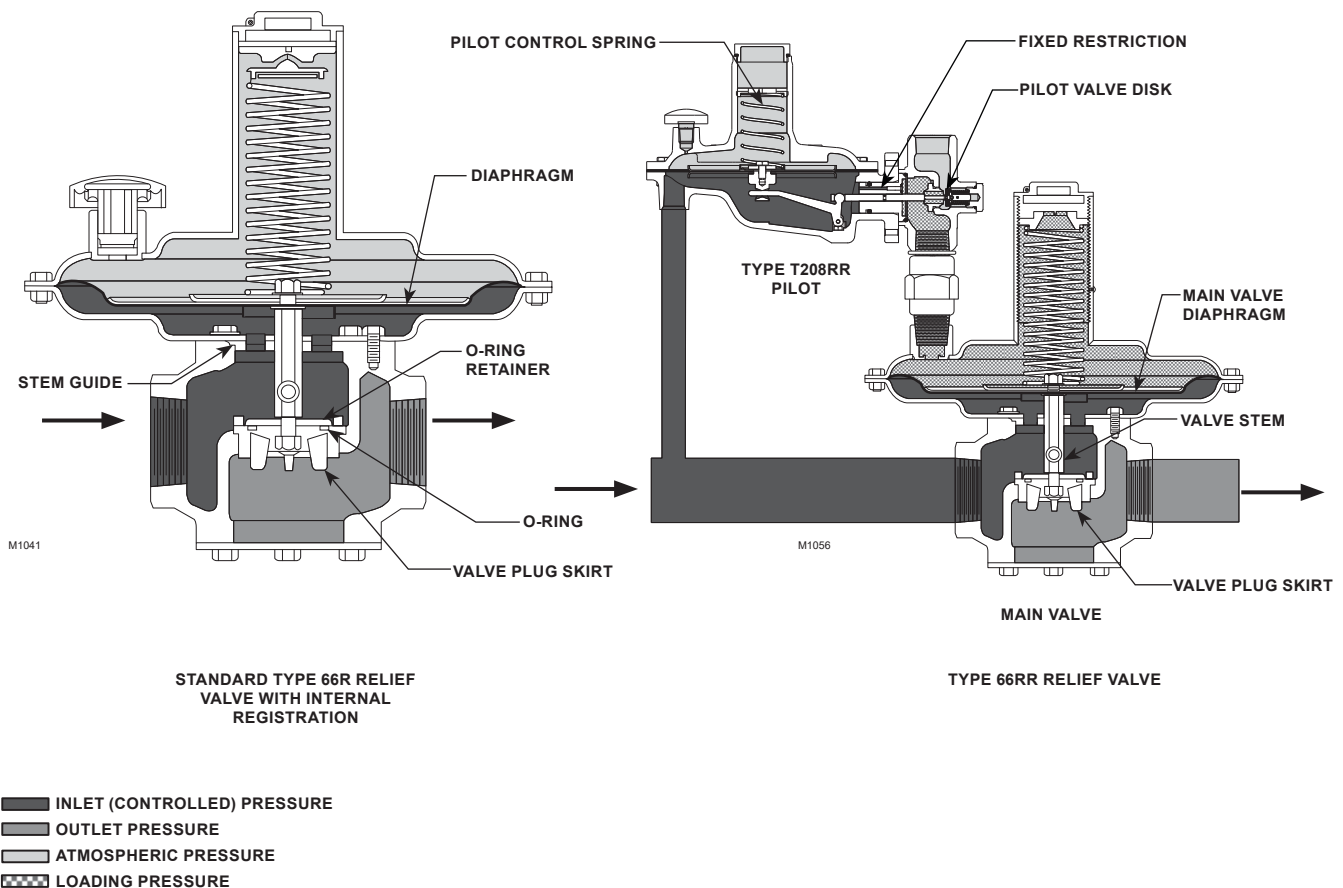

Figure 2. Operational Schematics
- **Seat Protection without Sacrifice in Shutoff Capability**—Retainer (Figure 2) in standard valve plug assembly closes against seat ring before assembly can overtravel and thus overcompress O-ring.
Inlet pressure registers under the diaphragm and is opposed by the spring (Figure 2). When the inlet pressure increases above the spring setting, the valve plug opens in a throttling manner and relieves the inlet pressure. As inlet pressure drops back to set pressure, the spring closes the valve plug.
Inlet pressure registers on the bottom of the pilot diaphragm through the upstream control line and bleeds through a fixed restriction in the pilot (Figure 2) to provide loading pressure that helps the main valve spring keep the main valve plug tightly shutoff. When inlet pressure exceeds the setting of the pilot spring,